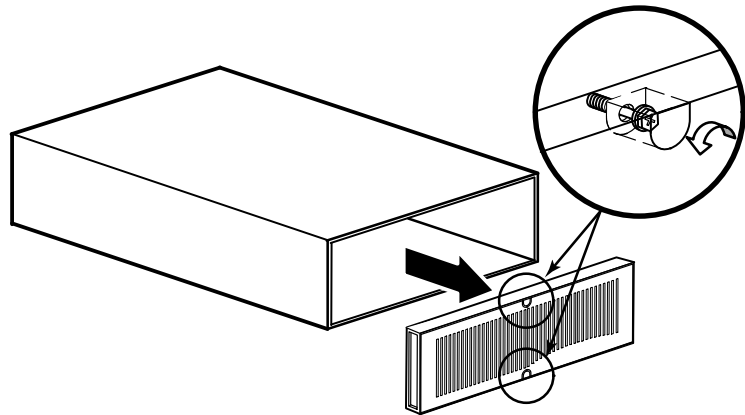

Figure 11. Removing the EBM Front Cover
2. Remove the EBM front cover (see Figure 11).